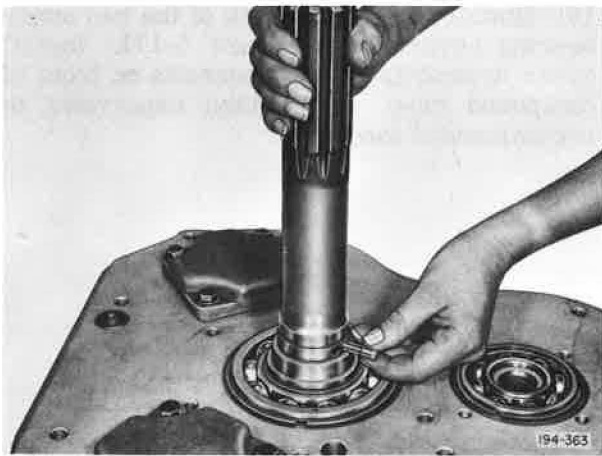

Figure 5-173. Installing Oil Pump Vane
18. Install oil pump vane in compound main driving pinion, see Figure 5-173. Vane should be flush with right-hand side of the pinion shaft and protruding slightly from the left side (as observed from the front of the transmission). This will insure alignment of vane with eccentric bore in cover during assembly.